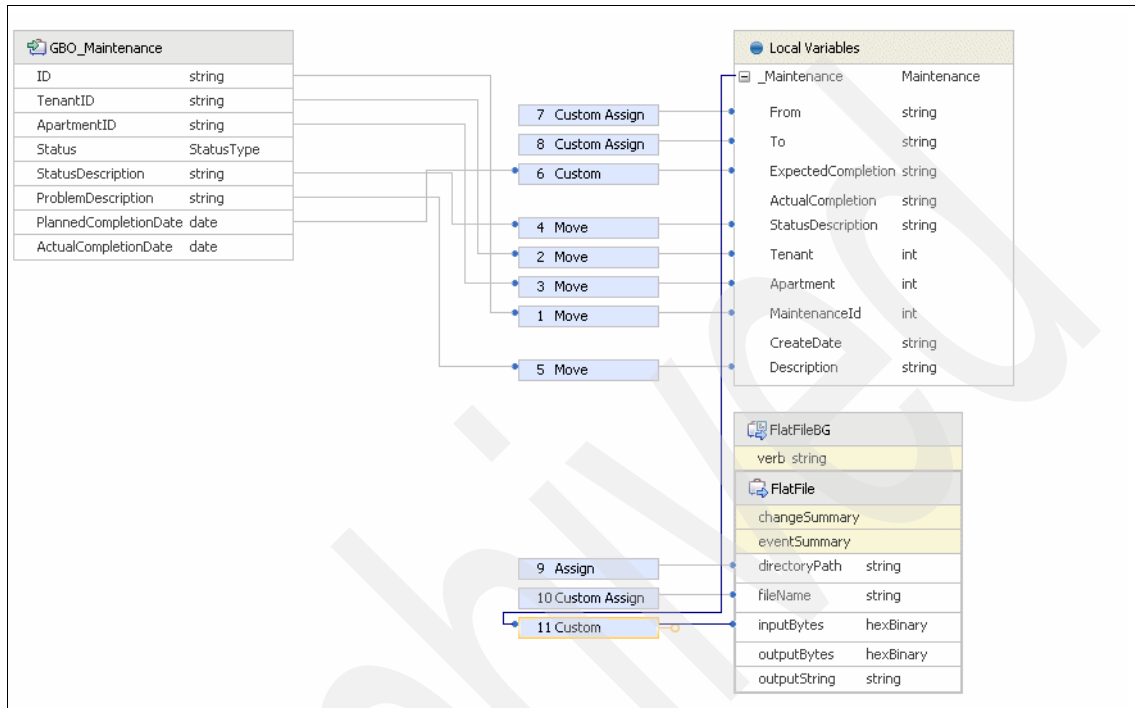

Figure 2-38 Add contents
4. Add a connection between \_Maintenance BO to variable inputBytes of FlatFileBG with a Custom transform. This will create the contents of the file itself (Figure 2-38).